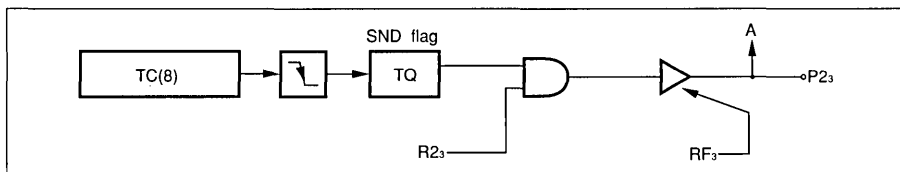

Fig. 6 SND Signal
The count pulse CP can be selected from divider signals f_{IN} , f_0 and the system clock, by using the mode register RD. If the count register (TC) overflows, the SND flag reverses its status at the falling edge of the TC. A sound signal can be obtained at the TC output by putting P2 in output mode and sending a "1" to pin P2₃ (See Fig. 6).